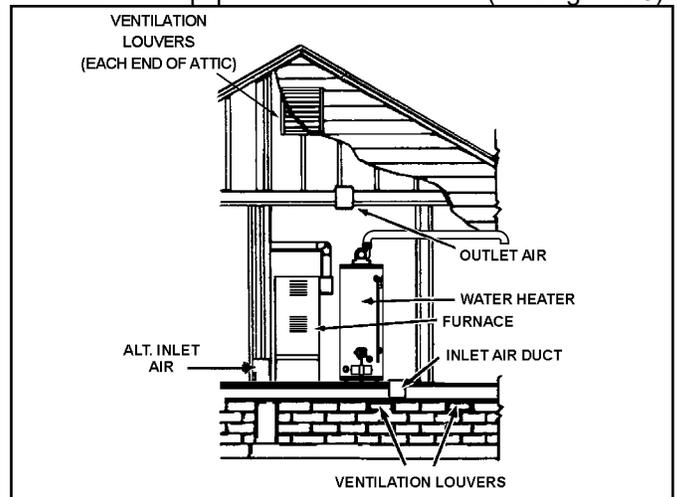
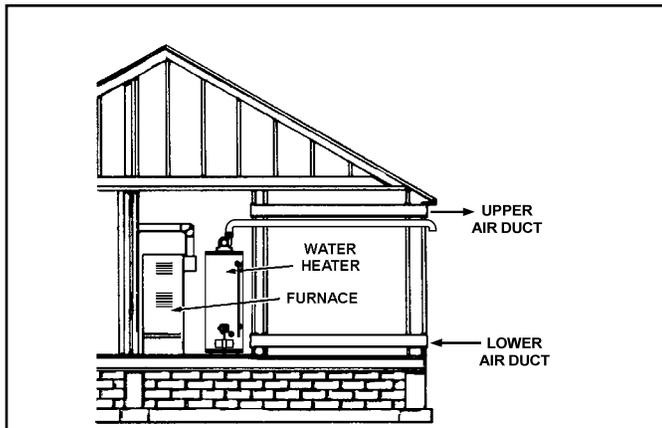

Figure 18.
Figure 20.
- B. **ALL AIR FROM OUTDOORS:** (See Figure 18 through Figure 20)
1. When directly communicating with the outdoors, each opening shall have a minimum free area of 1 square inch per 4,000 Btu/hr of total input rating of all equipment in the enclosure (see Figure 18).
- When communicating with the outdoors through horizontal ducts, each opening shall have a minimum free area of 1 square inch per 2,000 Btu/hr of total input rating of all equipment in the enclosure (see Figure 20).
- When ducts are used, they shall be of the same cross-sectional area as the free area of the openings to which they connect. The minimum short side dimension of rectangular air ducts shall not be less than 3 in. (see Figure 20).